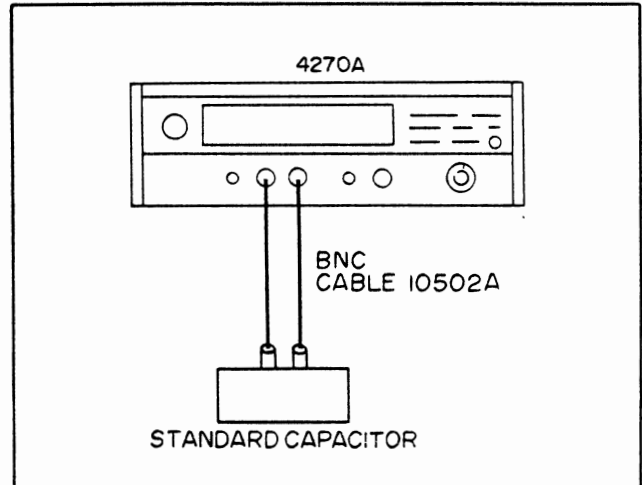

Figure 5-1. Capacitance Accuracy Check When $D < .1$
- c. Figure 5-1 illustrates the recommended test set-up.
- d. Connect the 100pF Standard Capacitor to the UNKNOWN Connectors as shown in Figure 5-1.
- b. Figure 5-1 illustrates the recommended test set up.